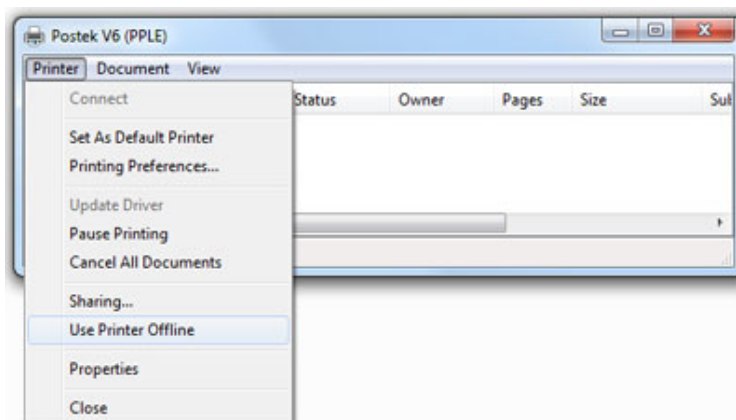

Figure 3-9
6. Check to make sure the V6 driver remains online. If the printer driver is offline, right click on the driver, choose **Printing preferences**, and click on **See what's printing**. Click **Printer** from the top menu, and make sure **Use Printer Offline** is unchecked. See Figure 3-9.